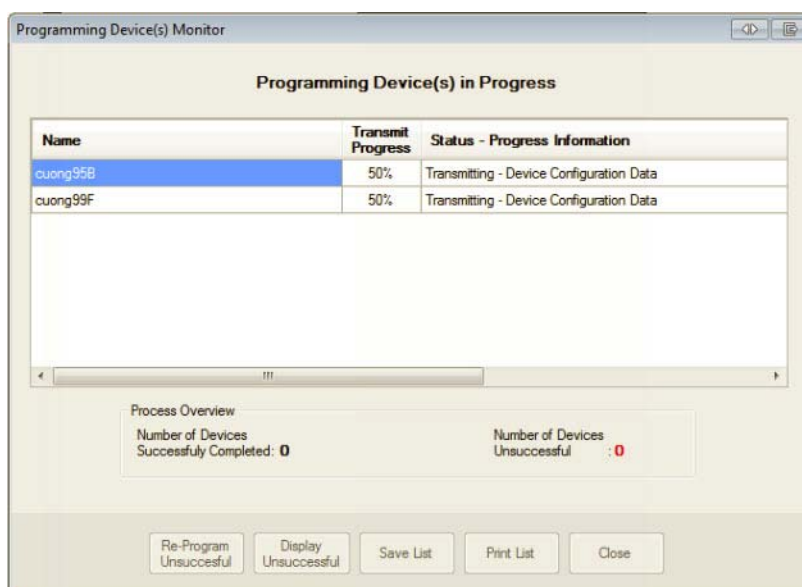

**FIG. 74** Timeout Properties dialog
2. Select one of the existing timeouts, and click **Edit**. The *Timeout Properties* dialog opens (FIG. 74).